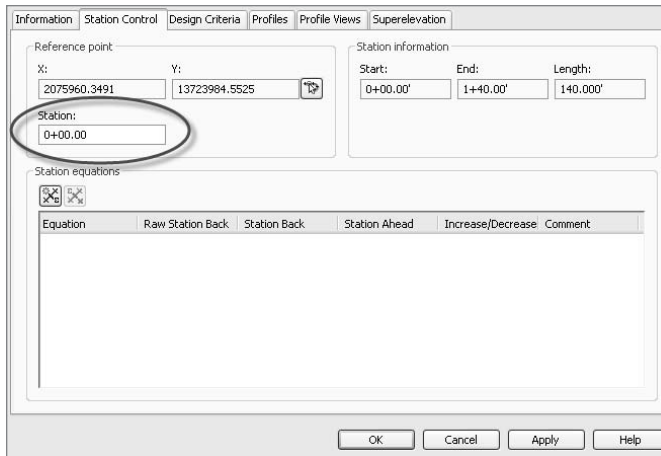

Figure A.46
5. Click OK to close the dialog. Your screen should look like Figure A.46.